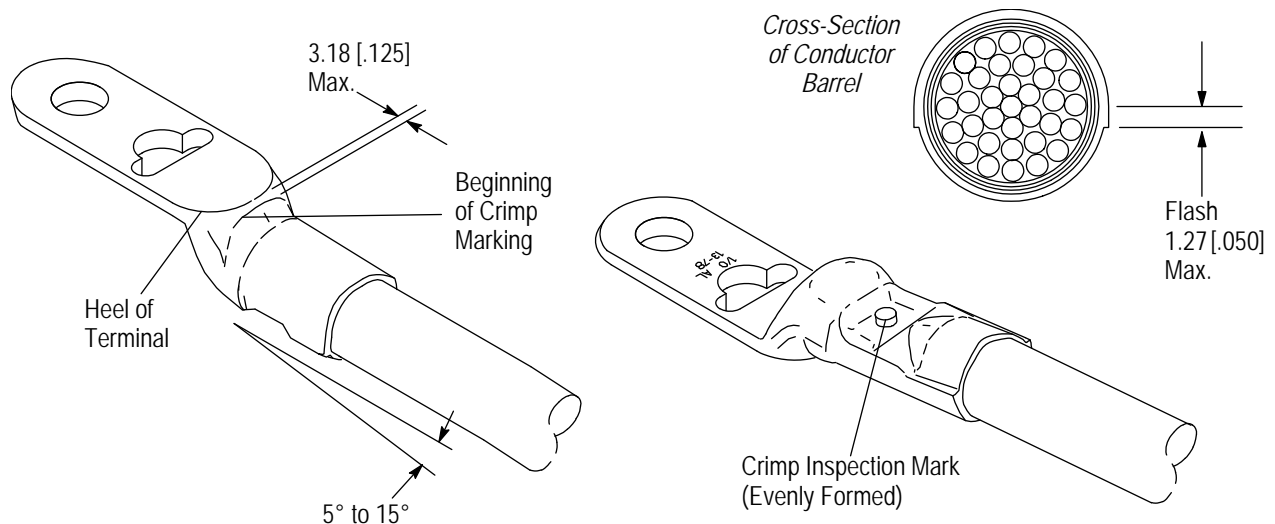

Figure 4
The crimp applied to the terminals is done in three stages during the crimp cycle, as required for aircraft applications: (1) primary, (2) transition, and (3) seal. Use the information provided in Figure 4 to check that the crimp was properly applied.
The crimp inspection mark should be in the center of the crimp area and it should be evenly and distinctly formed. See Figure 4.
The distance from the heel of the terminal and the beginning of the crimp marking must be within the dimension shown in Figure 4.
The crimped terminal must be within the degree of straightness provided in Figure 4.
Wire barrel flash that results from the crimping process must not exceed the limits provided in Figure 4.